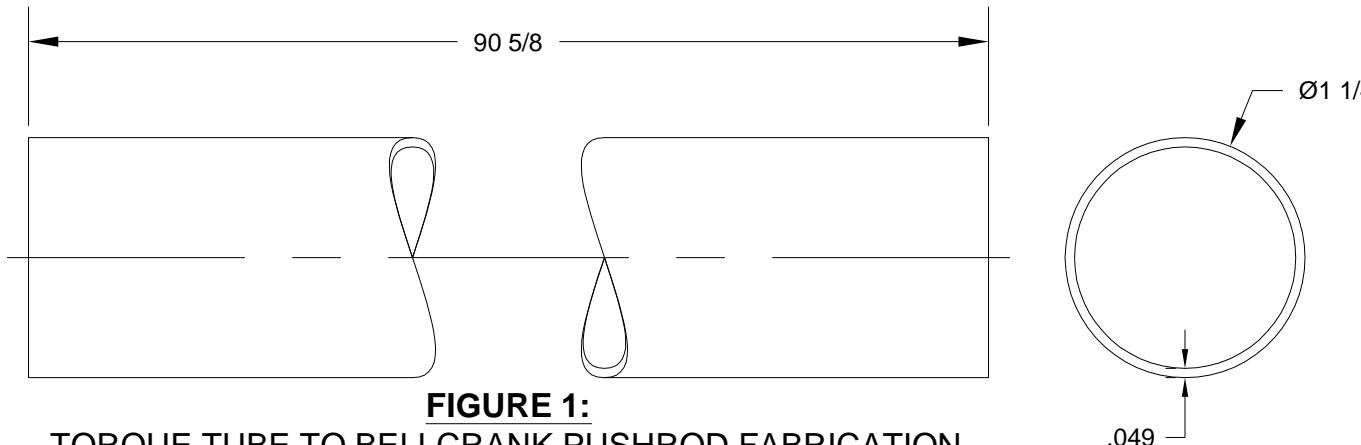

FIGURE 1:
Step 1: Fabricate two **W-1017A** Torque Tube to Bellcrank Pushrods by cutting two pieces of AT6-049 X 1 1/4 to the length shown in Figure 1.